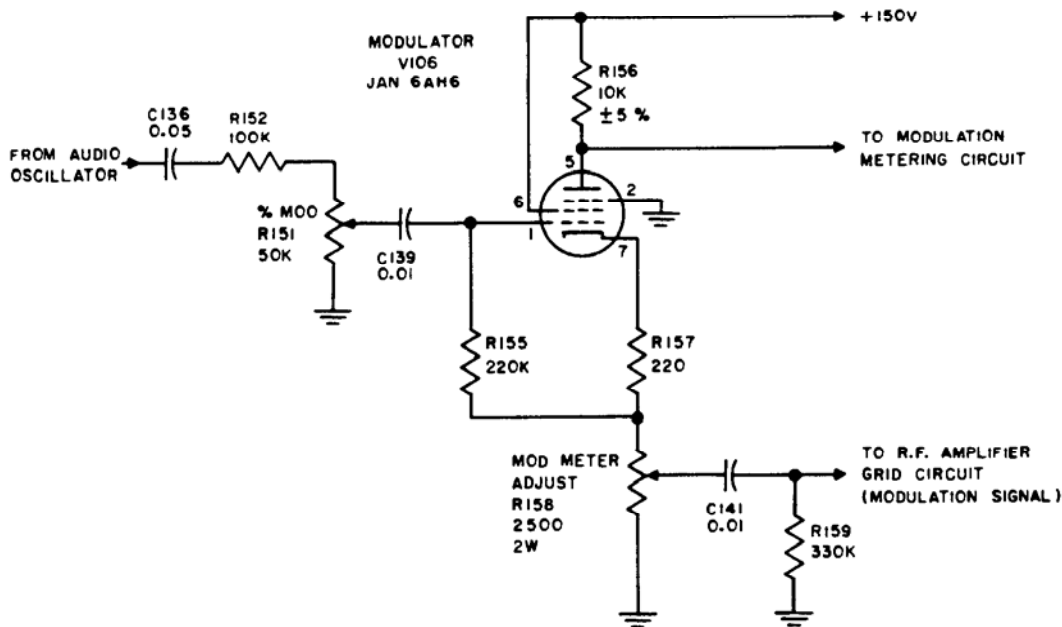

Figure 2-9. Modulator, Internal Modulation Simplified Schematic
d. Figure 2-9 illustrates signal path when the internal audio oscillator is used. The output of the audio oscillator is coupled to % MOD control R151 through resistor R152. This resistor isolates the audio oscillator from the circuits following R154. The arm of the control varies the percent of modulation and the amplitude of audio output at the AUDIO OUT jack.